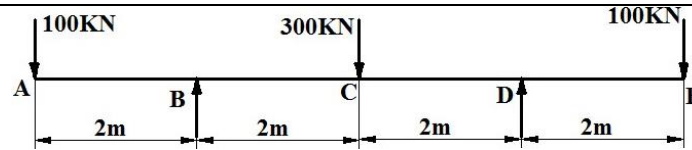

Figure 28
18. For the beam shown in *Figure 28*. Draw shear force and bending moment diagram